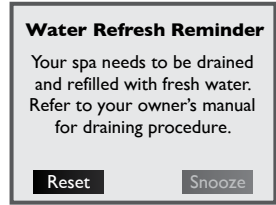

Figure 12.6f
5. When the timer expires, a message will appear on the control panel display, Figure 12.6f. The water must be drained and replaced with fresh water. Follow the instructions above to reset the timer. If you tap “snooze” the message will clear but the error icon  will display and the reminder screen will reappear in 10 days. Refer to Section 13.3, page 69, for filter location.